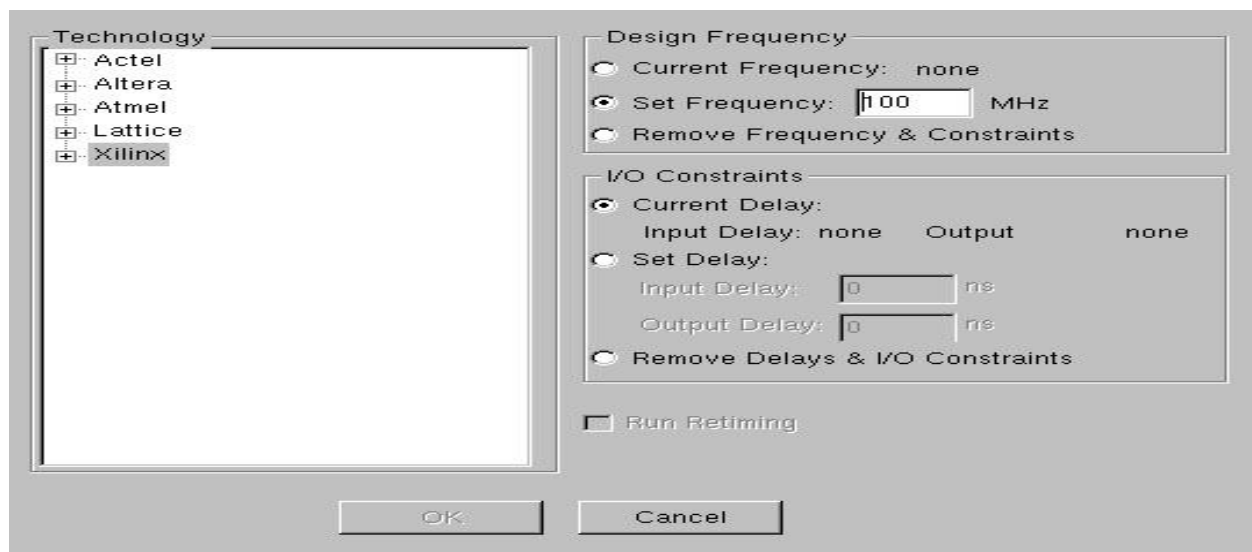

Figure 14: Project Settings Form.
(7) The next step is to specify the FPGA device you wish to use. This is performed by selecting the **Setup Design** icon. Clicking this icon will open the **Project Settings** form. In this form select Xilinx as the technology as shown in Figure 14.